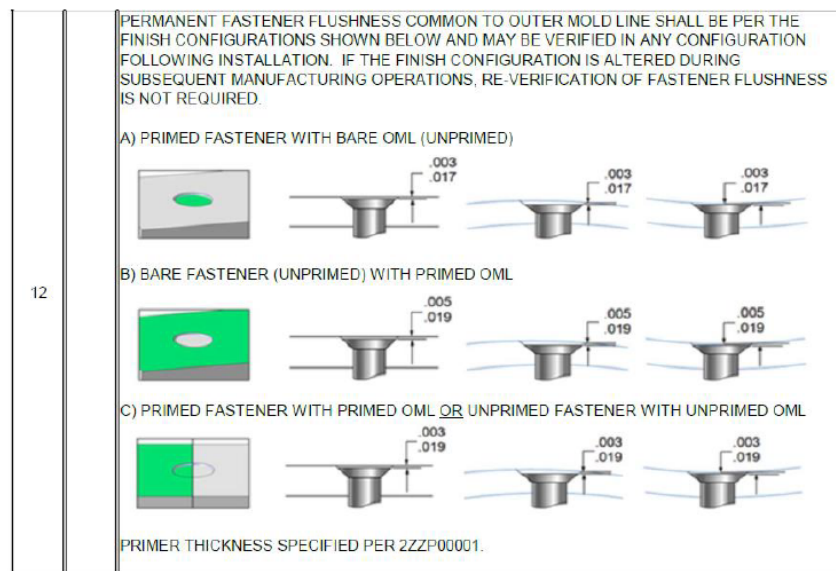

Figure 16 Exterior Surface Flushness
- 16 Check that Fastener Flushness is between -0.005 to -0.019 inch (-0.076 to -0.482 mm) IAW Figure 16 Exterior Surface Flushness Condition B).